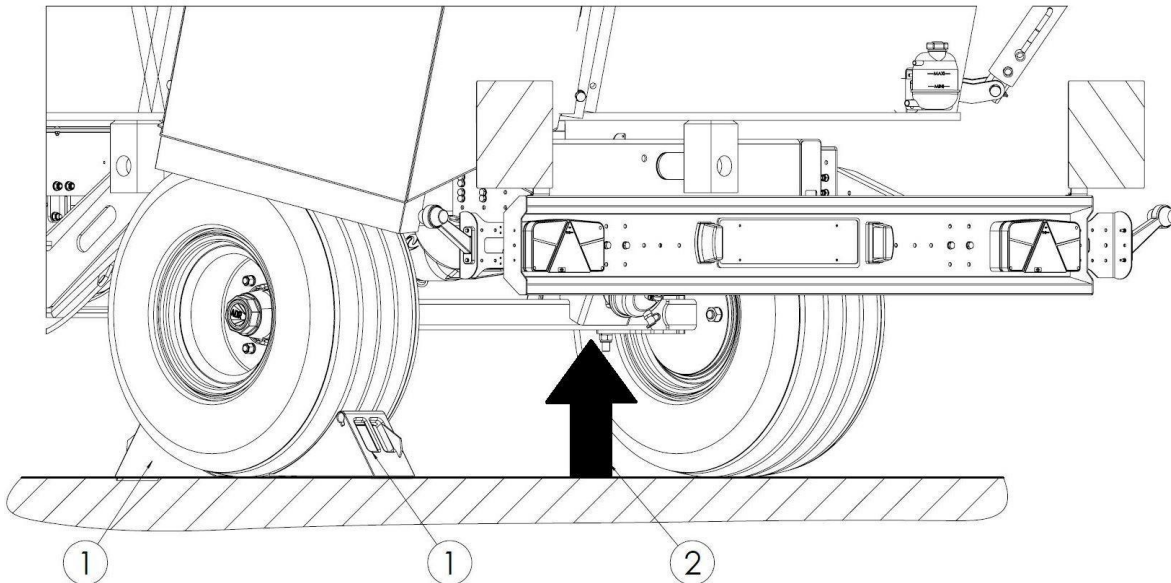

Figure 45. Jacking points: 1 – chocks, 2 – jack
If it is necessary to disassemble the wheel, observe the jacking points (2) under the axle. See Figure 45 for the jacking points. Wheel removal is only permitted when the machine is stationary with the parking brake applied, the wheels are secured with wheel chocks (1) and the fodder wagon tank is empty.